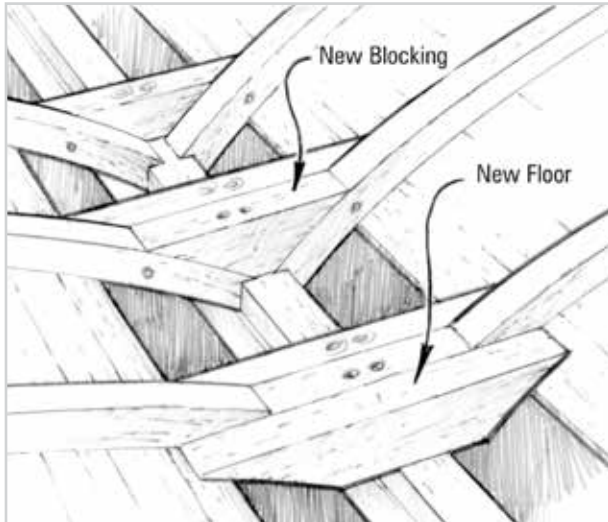

Figure 4-10 Bond new floors and blocking to the keels and frames.
5. Bond the new floors and blocking to the keel and frames (Figure 4-10). Wet out all mating surfaces and end grain with resin/hardener mixture. Apply G/flex 655 Adhesive or 105 Resin-based epoxy thickened with 406 Filler. Clamp in position until epoxy cures. Allow the epoxy to cure thoroughly before removing clamps and proceeding with the next step.